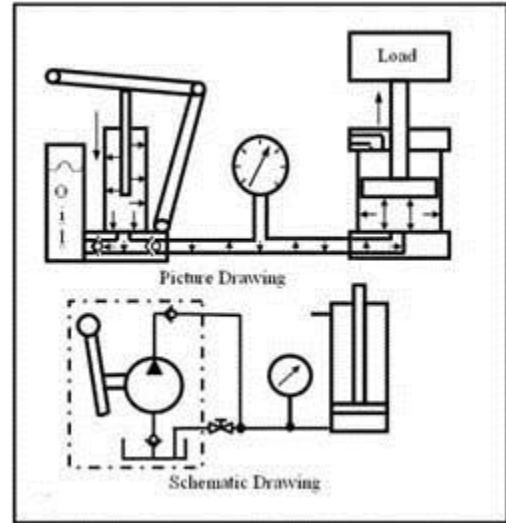

Fig. 1-3: How Pascals Law affects a cylinder
*The reason fluids can transmit energy when contained is best stated by a man from the 17th century named Blaise Pascal. Pascal's Law is one of the basic laws of fluid power. This law says: **Pressure in a confined body of fluid acts equally in all directions and at right angles to the containing surfaces.** Another way of saying this is: If I poke a hole in a pressurized container or line, I will get PSO. PSO stands for pressure squirting out and puncturing a pressurized liquid line will get you wet. **Figure 1-3** shows how this law works in a cylinder application. Oil from a pump flows into a cylinder that is lifting a load. The resistance of the load causes pressure to build inside the cylinder until the load starts moving. While the load is in motion, pressure in the entire circuit stays nearly constant. The pressurized oil is trying to get out of the pump, pipe, and cylinder, but these mechanisms are strong enough to contain the fluid. When pressure against the piston area becomes high enough to overcome the load resistance, the oil forces the load to move upward. Understanding Pascal's Law makes it easy to see how all hydraulic and pneumatic circuits function.*